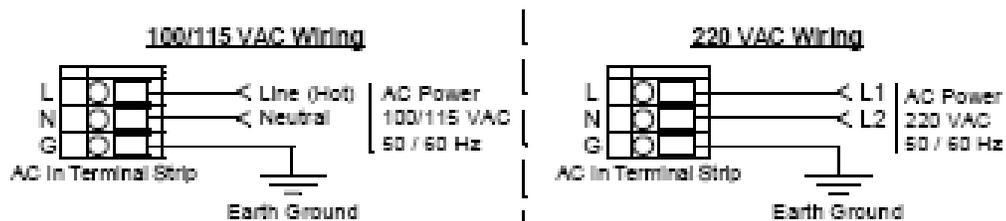

Figure 6: AC Power Wiring
6. Connect the AC wires to the AC in terminal strip as shown in Figure 6 below.